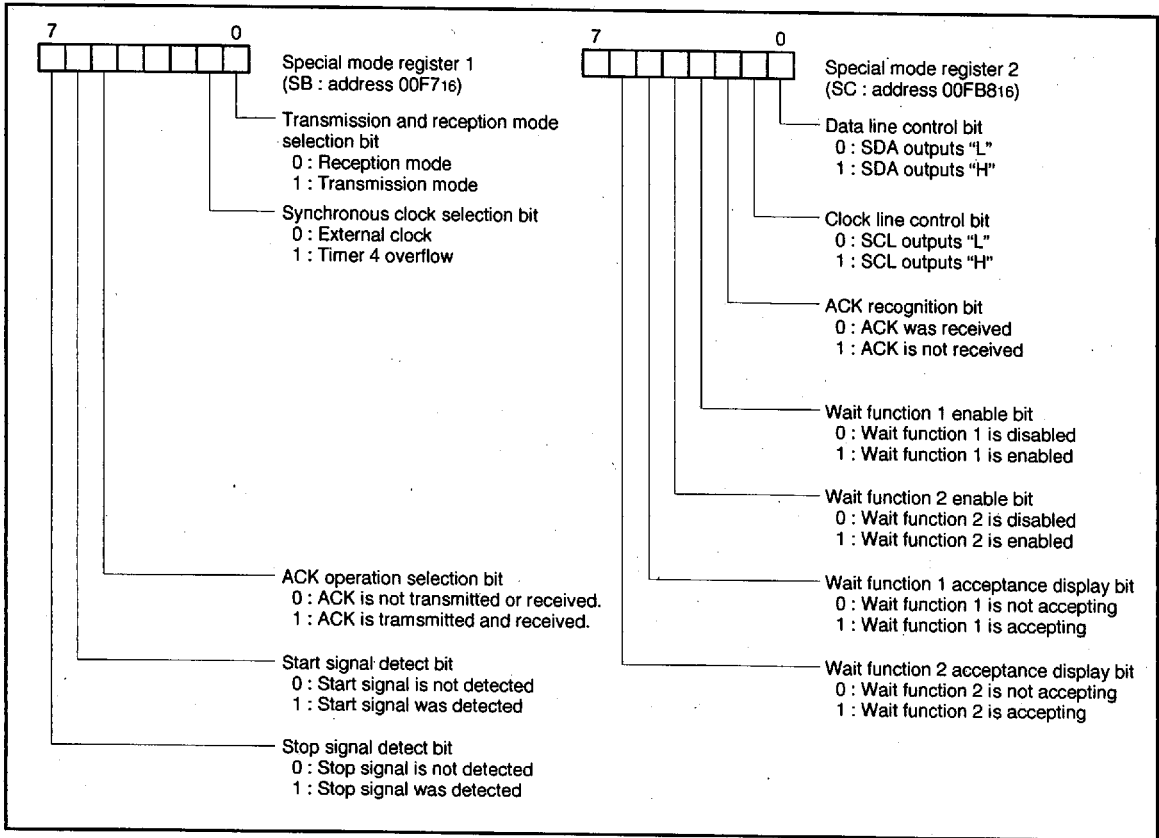

Fig. 18 Structure of special mode registers 1 and 2
- ① To generate an interrupt at the end of transmission, set bit 3 of serial I/O mode register 2 (address 00CE16) to "1" so as to special serial I/O interrupt is selected.
- ② Then set bit 1 of interrupt control register 2 (address 00FF16) to "1" so as to special serial I/O interrupt is enabled. Clear the interrupt disable flag I to, "0" by using the CLI instruction.
- ③ The output signals of master transmission SDA and SCL are output from ports P34 and P3s. Set all bits (bits 4 and 5) corresponding to P34 and P3s of the port P3 register (address 00C616) and the port P3 direction register (address 00C716) to "1".
- ④ Set the transmission clock. The transmission clock uses the overflow signal of timer 4. Set appropriate value in timer 4 and timer 34 mode register. (For instance, if f (XIN) /2 is selected as the clock source of timer 4 and 9 is set in timer 4 when f (XIN) is 4MHz, the master transmission clock frequency is 100kHz.)
- ⑤ Set contents of the special mode register 2 (address 00F816). (Usually, the value is "0316".)
- ⑥ Set the bits 3 and 4 of serial I/O mode register 1 (address 00CD16) so as the port P34 and P3s is specified to SDA and SCL. After that set the special mode register 1 (address 00F716). Figure 18 shows the structure of special mode registers 1 and 2. Initial setting is completed by the above procedure.
- ⑦ Clear bits 0 and 1 of special mode register 2 (to "0") to make both SDA and SCL output to "L". This is for arbitration. Immediately after this, write data to be transmitted in the special serial I/O regis-